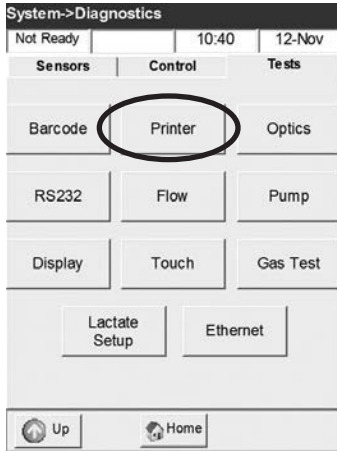

Fig. 7-15 Printer Test
- Press **<Printer>** to start the test (Fig. 7-15).